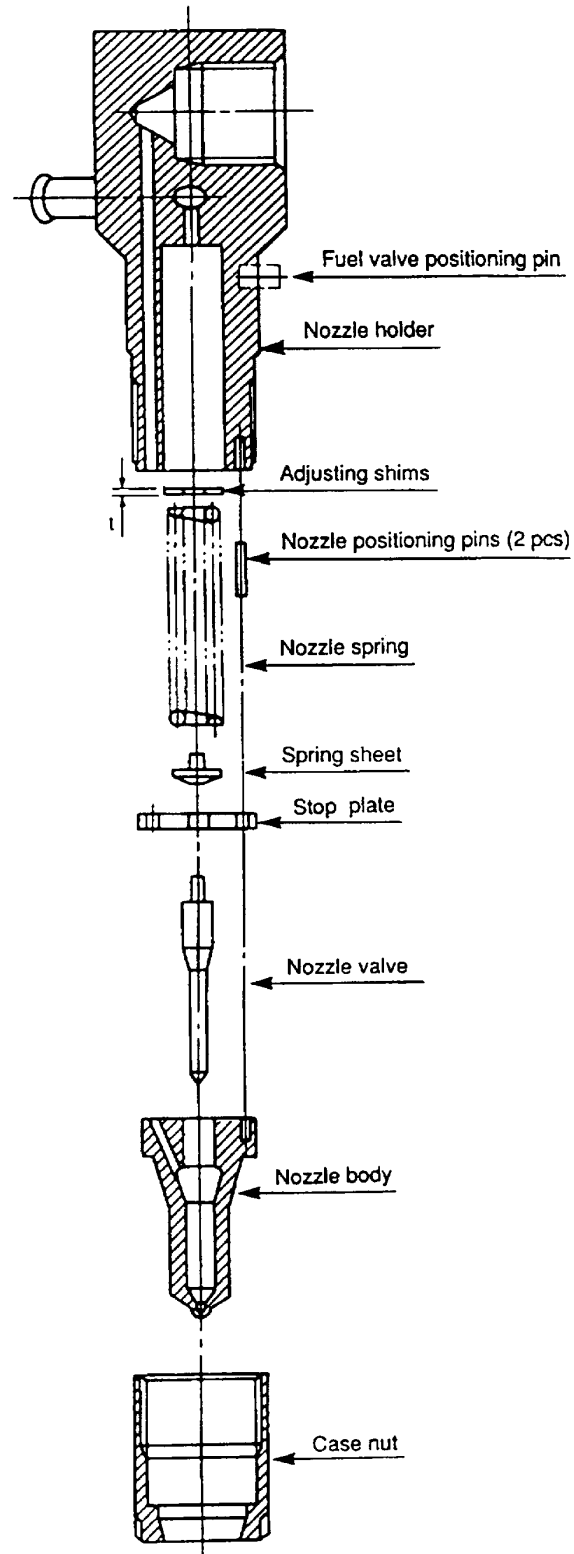

Figure 6-73 Fuel injection valve assembly
4) Disassembly and reassembly (see Figure 6-73)